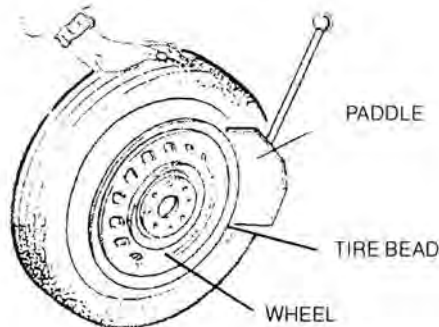

Fig.5
- 3) Open the bead breaker arm by hand by pushing it towards the outside. Place the wheel up against the Rubber Buffer. Bring the Paddle against the bead about 10mm from the edge of the rim. (see Fig. 5)
- 5) Rotate the tire slightly, and repeat the procedure around the entire circumference of the wheel rim until the bead is completely detached from the rim. (Fig. 5)